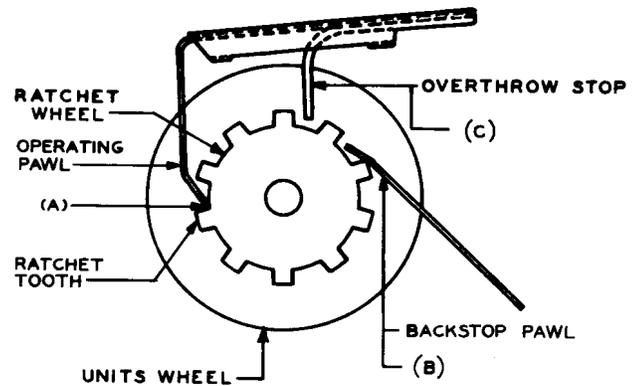

Fig. 5—Backstop Pawl, Operating Pawl, and Overthrow Stop in Unoperated Position of Register (Initial Design)
(a) **Figure 5, (A):** The operating pawl shall drop behind each ratchet tooth as the register is operated and released ten times.
Note: The pawl may, but need not, rest at the corner of the tooth as shown at (A) in Fig. 5.
2.04 Backstop Pawl Position (Initial Design Only): Fig. 5, (B)—The backstop pawl shall drop freely between two ratchet teeth after operation and release of the register.
2.05 Overthrow Stop Position (Initial Design Only): Fig. 5, (C)—The overthrow stop shall drop into its position between two ratchet teeth after operation and release of the register and prevent free forward rotation of the units wheel.